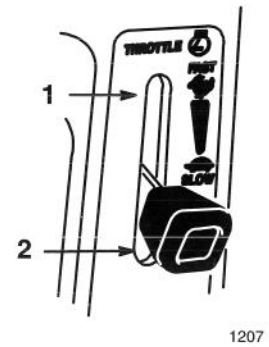

Figure 4
6. Move the throttle lever to "FAST" (Fig. 4).
8. After the engine starts, move the choke lever to "OFF" (Fig. 4). If the engine stalls or hesitates, move the choke lever back to "ON" for a few seconds. Then move the throttle lever to desired setting. Repeat this as required.
1. Move the throttle lever to "SLOW" (Fig. 4).